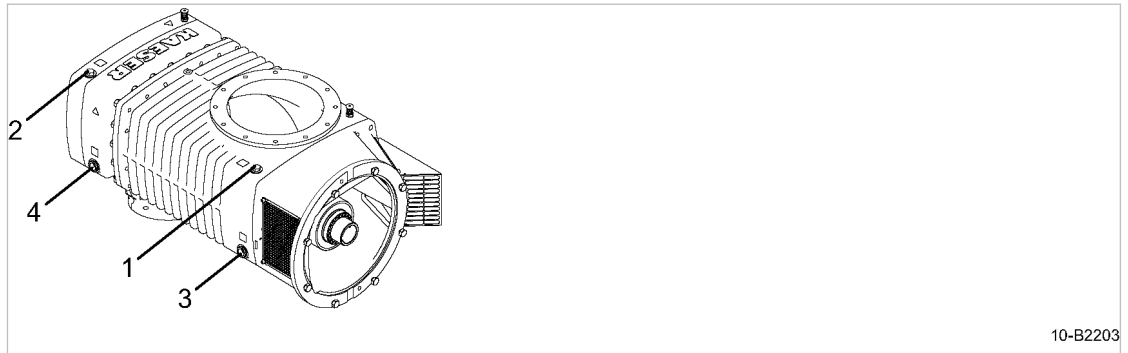

Fig. 28 Replenishing lubricating oil
2. Use the wrench to slowly open the oil inlets of the gear and drive end, items ① and ② in Fig. 28.
3. Screw off caps ④ of gear and drive end, secure against reclosing and ensure that the oil can flow freely.
4. Open oil drain valves ③ and let lubricating oil drain out.